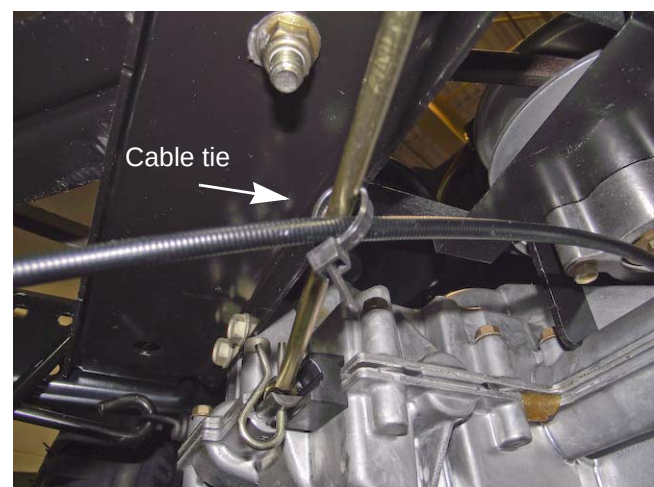

Figure 8.49
11. Cut the plastic cable tie that secures the engagement cable where it passes under the shift rod. See Figure 8.49.